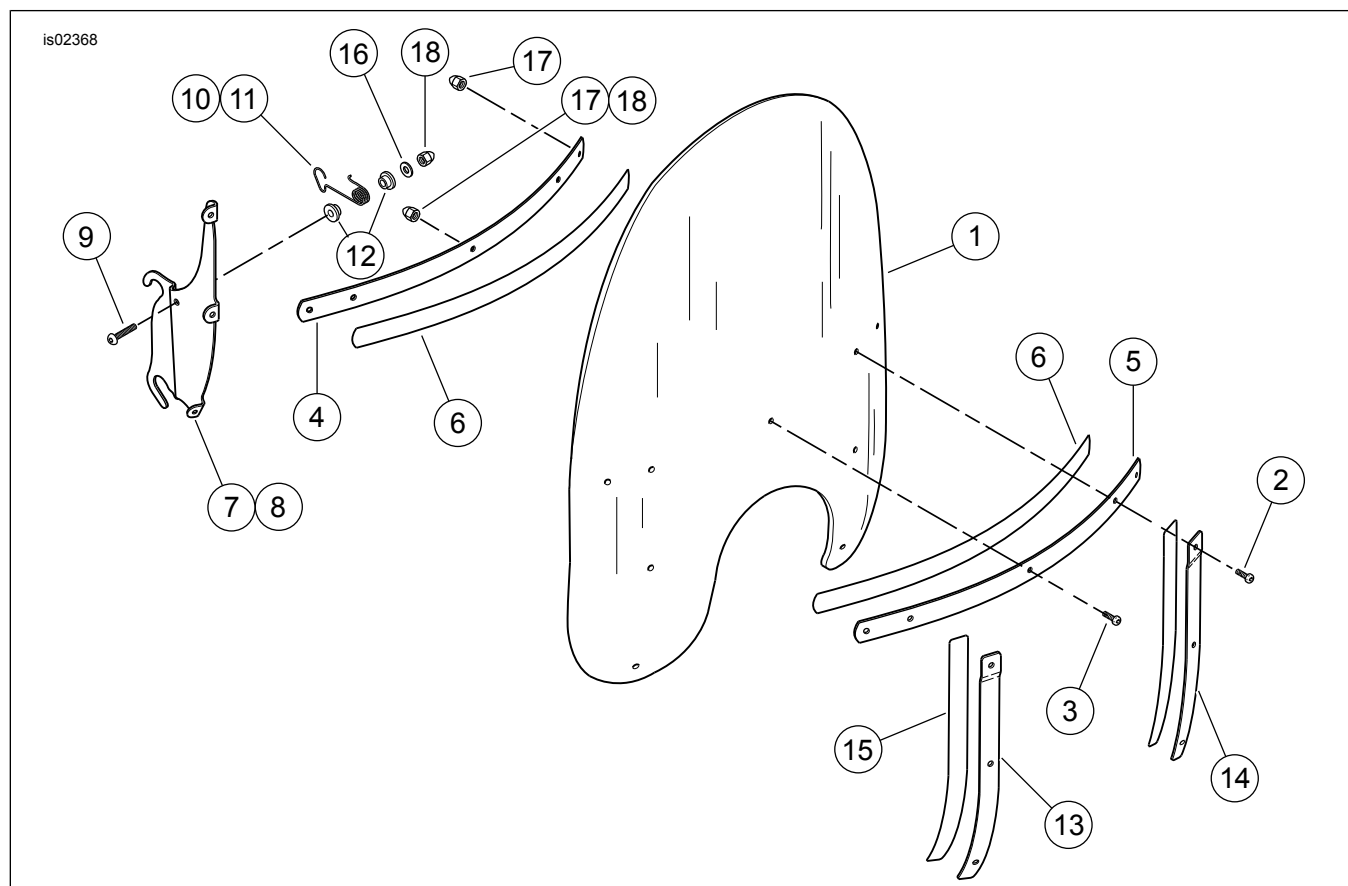
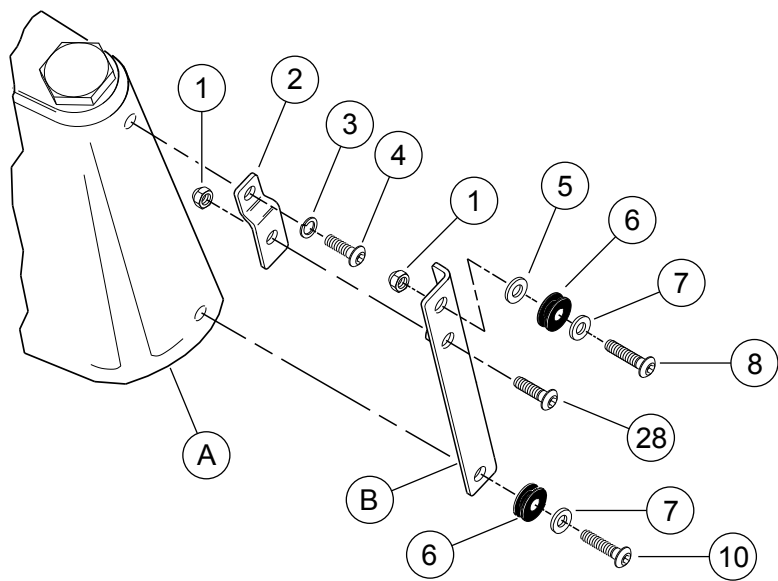

Figure 1. Service Parts: Windshield Kits
Figure 2. Service Parts: Windshield Hardware Kit
See Figure 1 and Table 2, Figure 2 and Table 3.
2. See Figure 2. Keep the bottom fog/ passing lamp bracket screws (10) in place. Rotate the tops of the left and right-side brackets toward the rear of the motorcycle.
3. Thread a 3/4 inch long screw (9) from the kit into the weldnut on the fog/ passing lamp bracket, and tighten to 10.8 Nm (8 ft-lbs). Place the wide end of a mounting bracket (2) onto the screw threads. Install a locknut (1) onto the screw threads. Tighten the locknut to 10.8 Nm (8 ft-lbs).
6. Place a lockwasher (3) on a 1/2 inch long screw (4) from the kit. Insert the screw through the mounting bracket (21) and decorative fork cover, and into the triple clamp. Use an Allen wrench inserted through the top hole in the fog/passing lamp bracket to tighten the screw. Tighten.